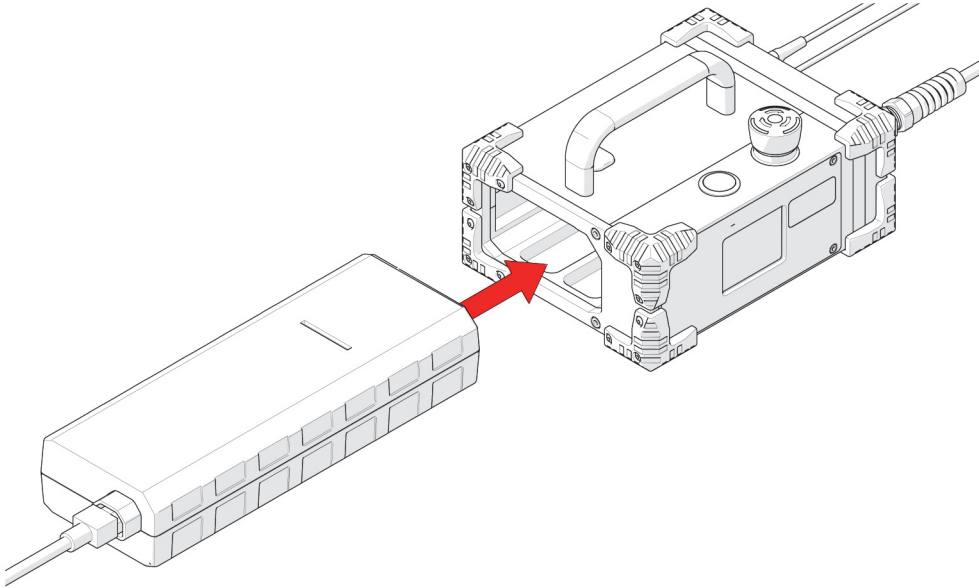

Figure 4-1 Insert power source
1. Insert a power source into the power controller dock (see Figure 4-1 on page 168 and “Power Requirements” on page 225).